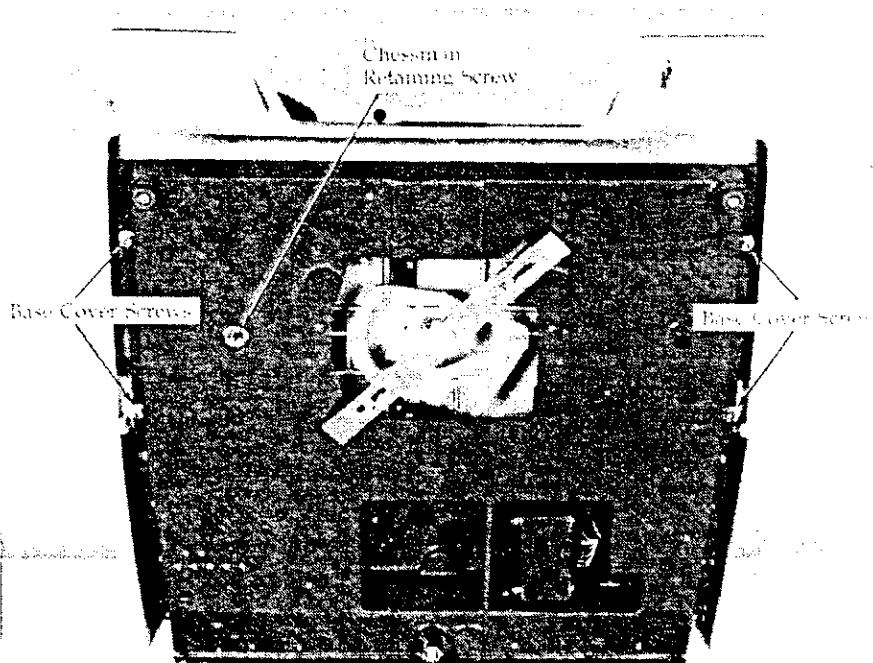

Figure 9-13 The Underside of the Base
- Step 1 Slide the machine forward (being careful that it does not fall from the bench) to access its under side. From underneath the machine, while holding the Chessman rod with pliers, remove the Chessman retaining screw (see Figure 9-13).